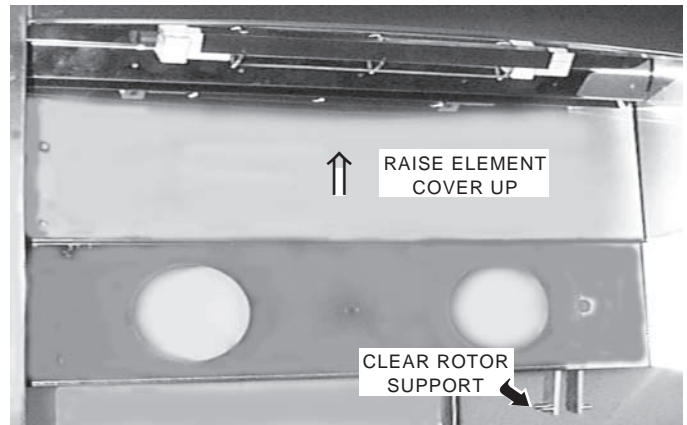

Fig. 63
- Raise element cover up and swing toward front of oven to clear rotor support and rotor arm (Fig. 63). Continue to swing element cover to forwardmost position.